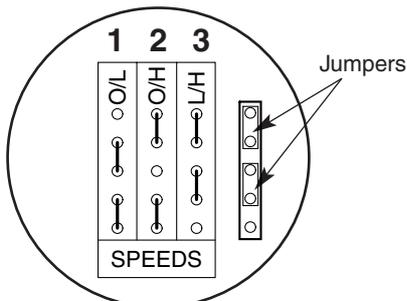

Fig. 23
13. Connect the wires to the terminal block. Connect red to red, white to white and black to black (Fig. 23).
15. The HR25H unit is factory set to switch between high or low speed. Two alternative settings can also be achieved by changing the position of the 'jumpers' on the control board (Fig. 23).
17. To adjust the humidity level, rotate switch (A) as follows (Fig. 23):
- a) For the unit to operate at a lower humidity level, turn switch (A) anti-clockwise (Min. 60%).
- b) For the unit to operate at a higher humidity level, turn switch (A) clockwise (Max. 90%).